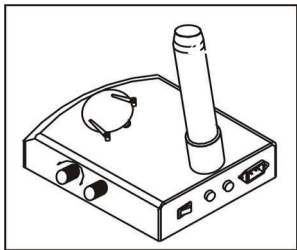

Fig. 9
1) Turn the adjustable light knob ① according to the sign marked on the base, along the clockwise the brightness will be added otherwise it will be weakened. (Fig. 9)